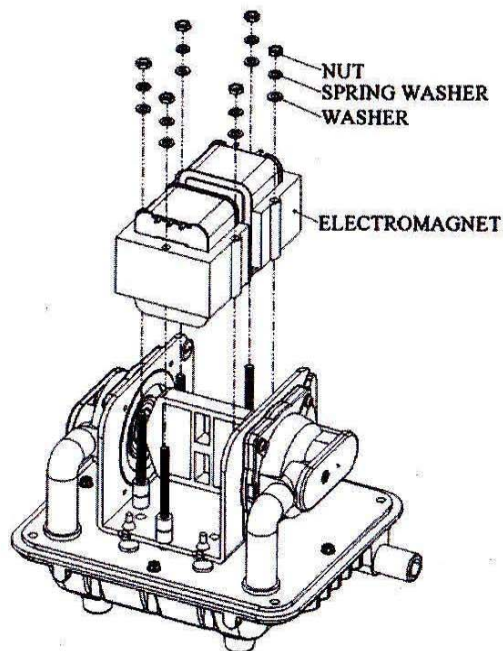

Figure 5
- B. Loosen the six nuts atop the electromagnets. (As shown in figure 5)